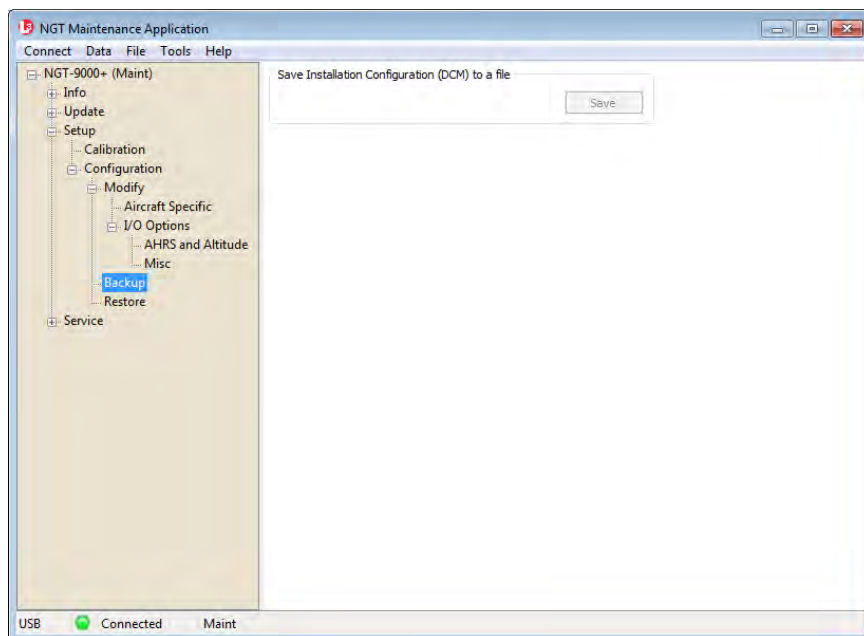

Figure 3-12: Lynx MAT – Configuration - Backup
2. Click “Save” to copy the configuration information to a file on the MPC. See Figure 3-12.